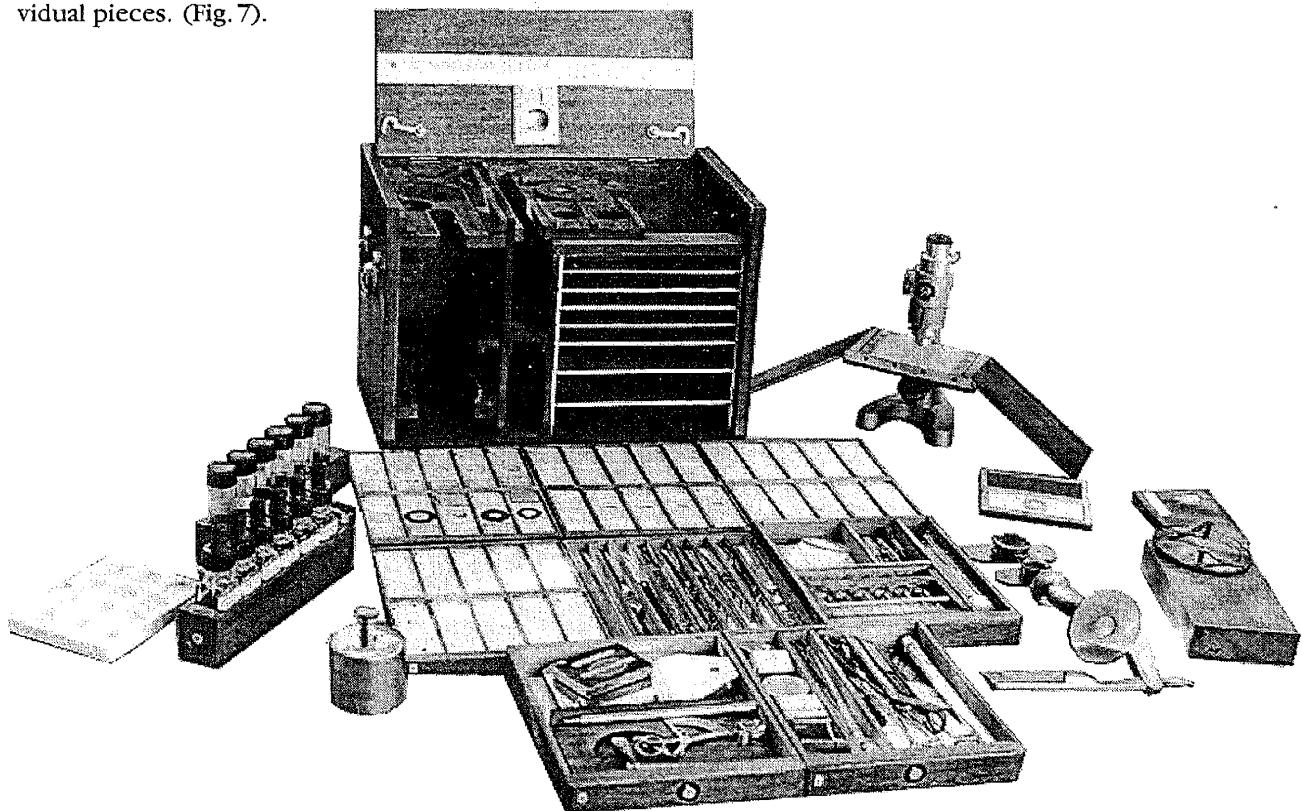

Fig. 7 Display of chest and contents
**OUTFITTING THE WORK CHEST.** The contents of a work chest depend on the type of microscopical activity being pursued. The size and shape of the work chest was determined by the quantity, sizes and configurations of the contents. During the final phases of the fabrication, spatial clearances for the various items making up the chest are checked for the fit of each item. It is now 'Moving Day' and every item to be stored in the chest is placed in its designated location. If all of the items fit, take comfort in a job well planned, but be aware of Murphy's Law which in this case has to do with that IMPORTANT piece which you forgot to include in the contents of the chest. Again, careful planning will minimize the possibility of such an occurrence. By now, the chest appears filled to capacity but there may still be room available for storing those inevitable added items. (Fig. 7)
**LISTING OF CONTENTS.** The work chest contents represent a composite array of the items, both historical and contemporary, which were reviewed and considered for inclusion. The chest contents were gathered over a period of time and include items ranging from a circa 1870 mahogany based brass turntable by Dunscombe of Bristol to a modern wafer thin solar calculator the size of a credit card. The custom made devices were designed and fabricated especially for this project. The chest contains more than 130 individual pieces. (Fig. 7).